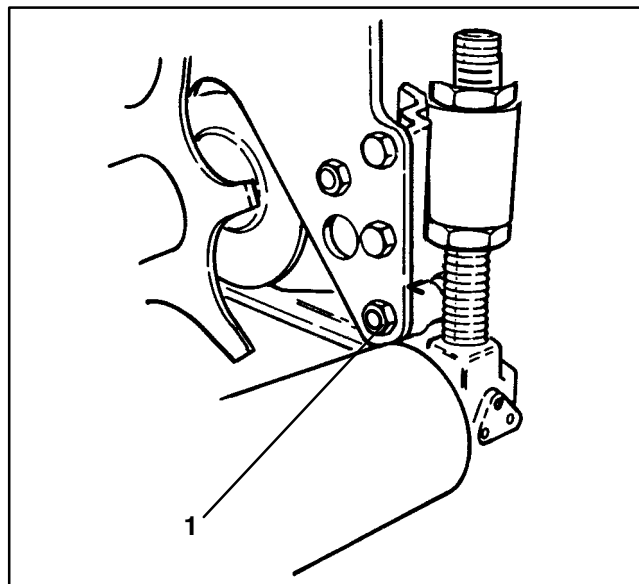

Figure 3
4. Secure spacer and skid to sideplate with 1/2–13 x 11/4" capscrew. Bolt to be installed from outside of sideplate (Fig. 3).